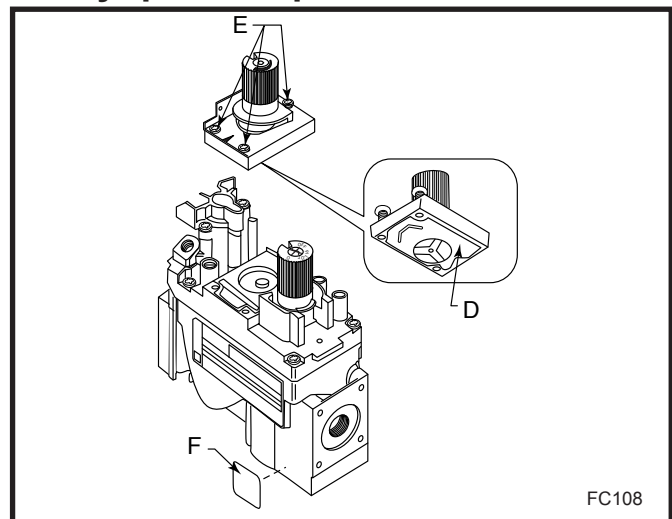

Fig. 38 Replace regulator.
2. Insure the rubber gasket (D) is properly positioned and install the new HI/LO pressure regulator assembly to the valve using the new screws (E) supplied with the kit. Tighten the screws securely. (Ref. torque = 25 in/lb) (Fig. 38)
3. Install the enclosed conversion label (F) to the valve body where it can easily be seen. (Fig. 38)